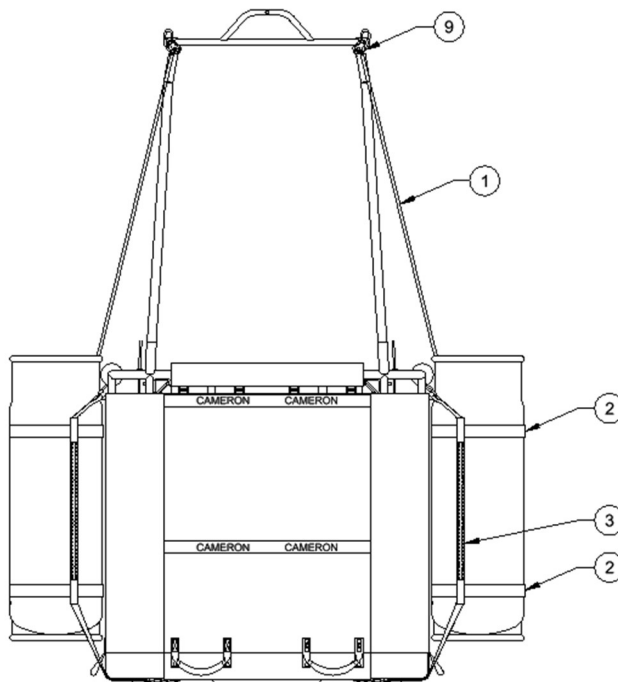

Figure 6 - shows the erected basket with the external cylinders attached.
2. Place the basket on the ground and fully assemble the basket into its erect state, as seen in Figure 6.